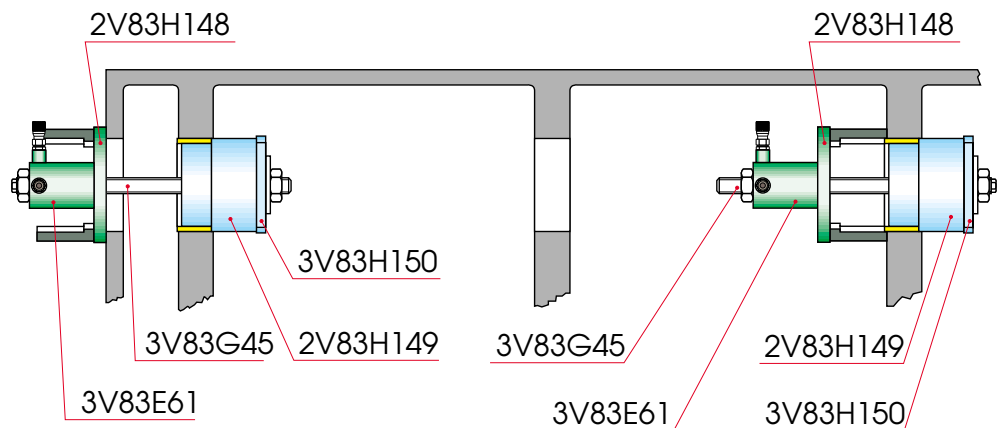

Fig 10-4
- 3 Assemble the removing device** 32.83E05 according to Fig 10-4. Notice the difference in tool assembly for the bearing next to the free end of the engine. When it is a question of an end bearing, insert the guide sleeve 2V83H149, the thicker part being directed towards the middle of the engine.